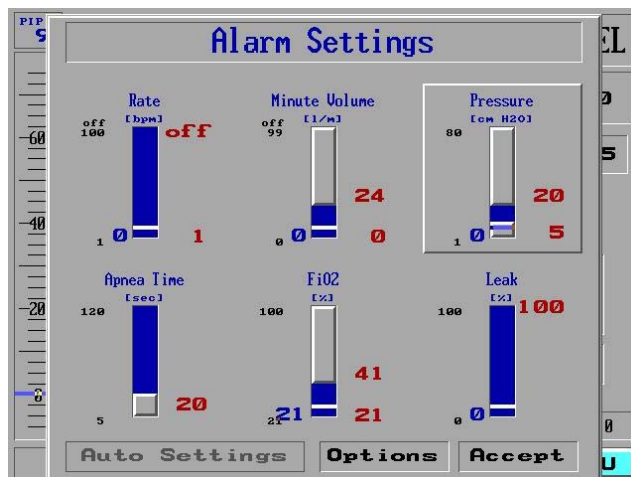

Figure 136: The Pressure Alarm Slider Selected
3. In the **Alarm Settings** screen, dial the Control Knob until **Pressure** is selected in relief (Figure 136).